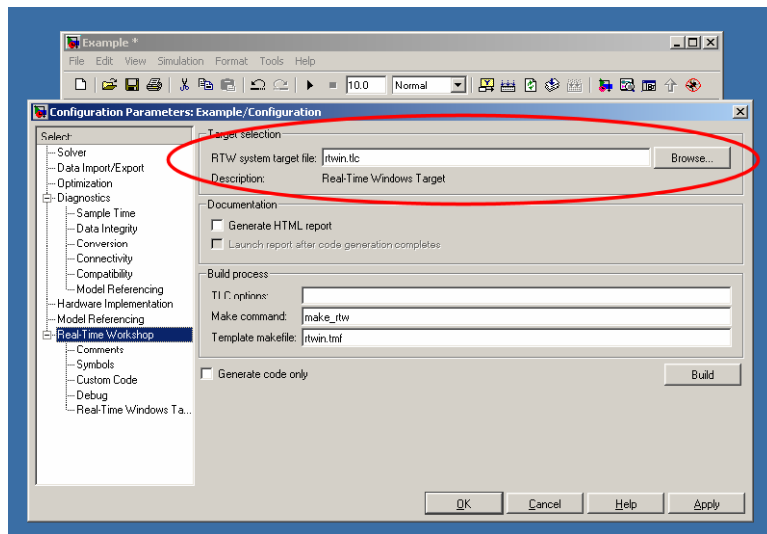

Figure 10: Real-Time Workshop Target selections
5. In the TARGET SELECTION area, click BROWSE, and scroll down to the bottom, and select rtwin.tlc from the menu. Verify that the other settings in the window match the picture in Figure 10.